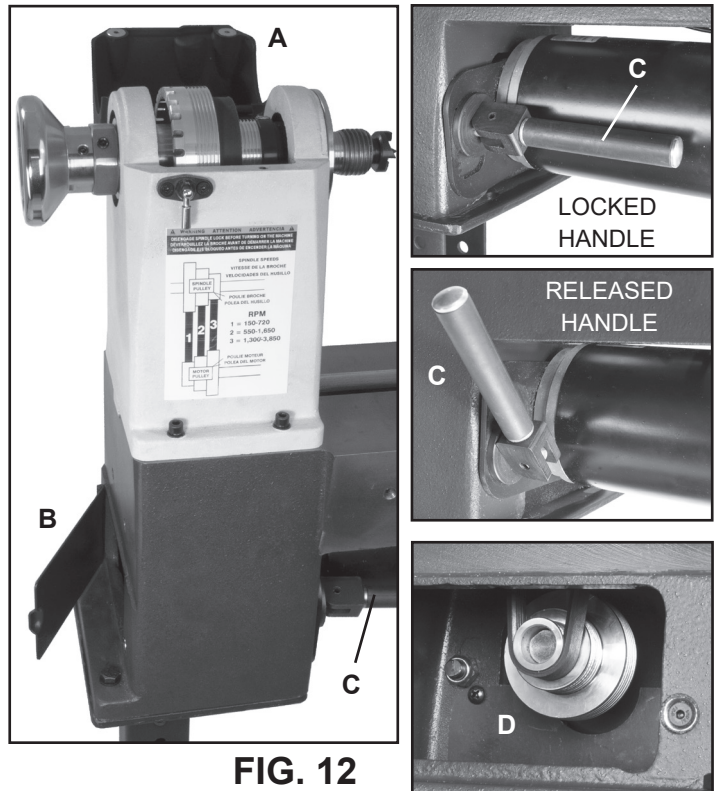
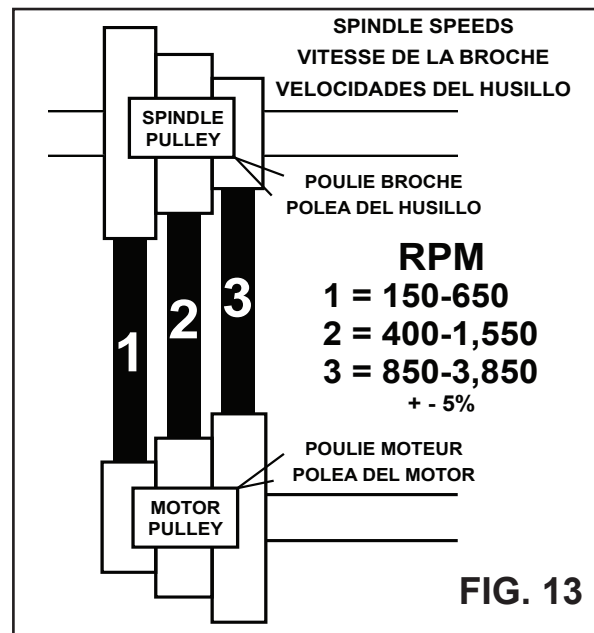

FIG. 12
FIG. 13
2. Open the top Headstock Cover (#14B, FIG. 12, A) and the left side, Bed Cover Plate Door (#5A, B) to gain access to the belt and pulleys that are inside of the headstock.
- Pull the handle forward to unlock. FIG. 12, C.
4. - Change the belt position on the two pulleys. The Poly-V-Belt (#29B) can now be re-positioned on the upper Spindle Pulley (#24B) and lower Motor Pulley (#10A, FIG. 12, D) for the desired speed range setting. FIG. 13 shows the belt positions for the three speeds.